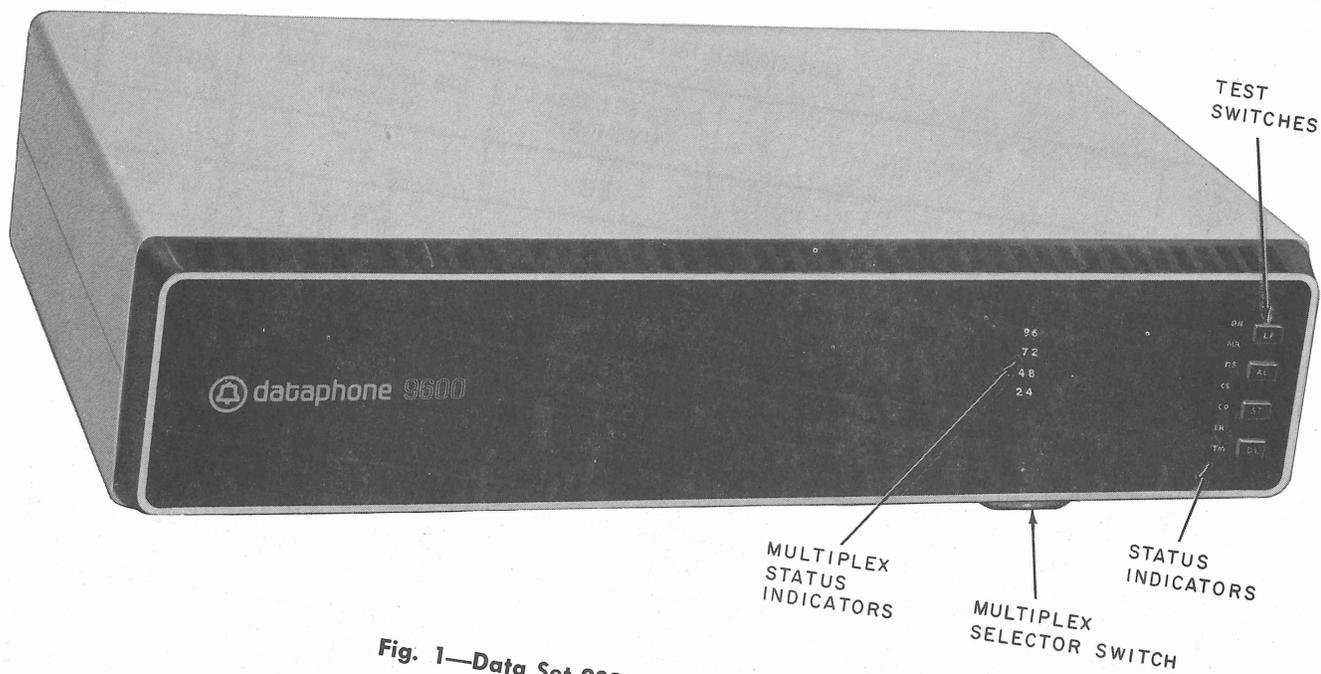

Fig. 1—Data Set 209A-L1—Front View
2.01 DS 209A-L1 (Fig. 1) consists of a transmitter, receiver, and control circuits which are mounted on 19 KD-type plug-in circuit packs. The exterior of the data set consists of front and rear molded black plastic faceplates mounted on an extruded aluminum housing with a brushed finish. The overall dimensions of the data set are approximately 20-1/2 inches across the front, 5 inches high, and 13-1/2 inches deep. The weight is approximately 42 pounds.
2.07 The multiplex selector switch which extends through the bottom of the data set is accessible from the front of the data set (Fig. 1). The switch is a 6-position continuous rotary-type